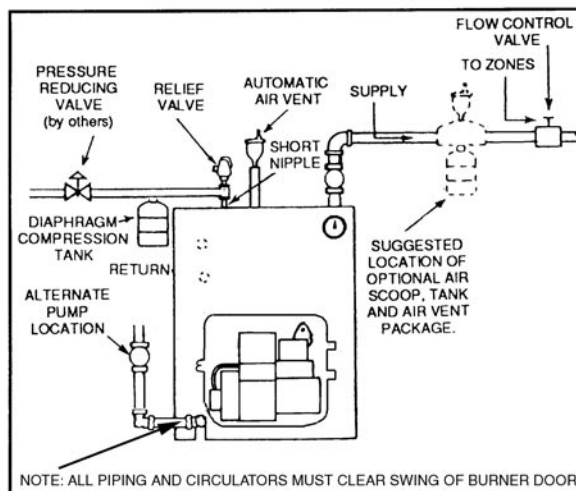
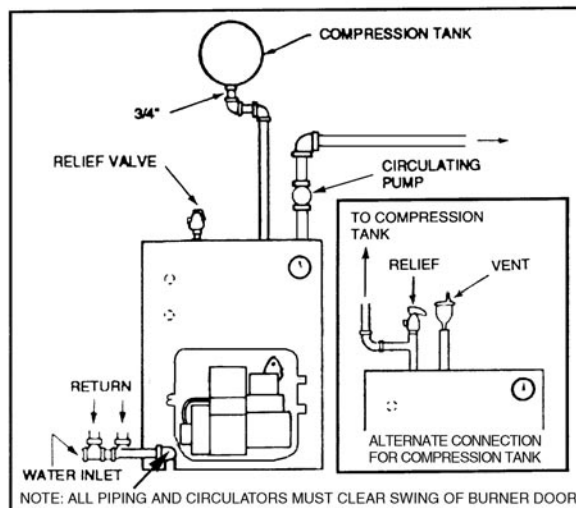

Figure 6. Air Eliminating System
Figure 7. Air Collecting System
- B. A **FLOW CONTROL VALVE** (See figure 6) will prevent gravity circulation and usually is required when tankless heater is installed.
- A. **DIAPHRAGM-TYPE COMPRESSION TANKS** are used to control system pressure in an **AIR ELIMINATING SYSTEM**: an automatic air vent is used to REMOVE air from the system water. See figure 6. If system pressure needs further control, add an additional tank or install a larger capacity tank. The automatic air vent should be installed in the top of the boiler, as in figure 6.
- B. **CONVENTIONAL COMPRESSION TANKS** (non-diaphragm type) are used to control system pressure in an **AIR COLLECTING SYSTEM**. Within the system, after initial start-up and venting, air is collected in the tank and acts in contact with the water to control pressure. Air is not vented from this system. If system pressure needs further control, add another tank in parallel with the original tank or install a large capacity tank. Locate the tank at the inlet end of the pump near the boiler. (See figure 7)
D. **PUMP LOCATION**-Locating low-head pump(s) on return to boiler is only acceptable in residences of one or two stories. (See figure 6) The pump location shown in figure 7 is required in large, multi-story building installations, especially when high-head pumps are used and is also recommended for all applications.
E. A conventional compression tank may be connected to the 3/4" tapping as shown in figure 7.
IMPORTANT: Hot water heating systems containing high water volume, such as would occur with cast-iron radiation, require special care with air elimination. The circulator pump should be located on the boiler supply pipe and the expansion tank and air scoop should be located near the pump suction. (See Figure 6, Alternate Pump Location.)